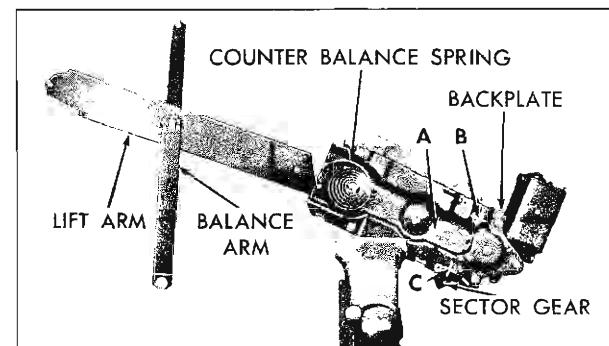

Fig. 3-24 Regulator and Motor
1. Remove front door electric window regulator assembly from door as previously described and clamp it in a vise (See Fig. 3-24).
4. Remove motor attaching bolts and remove motor assembly from regulator (See Fig. 3-24).